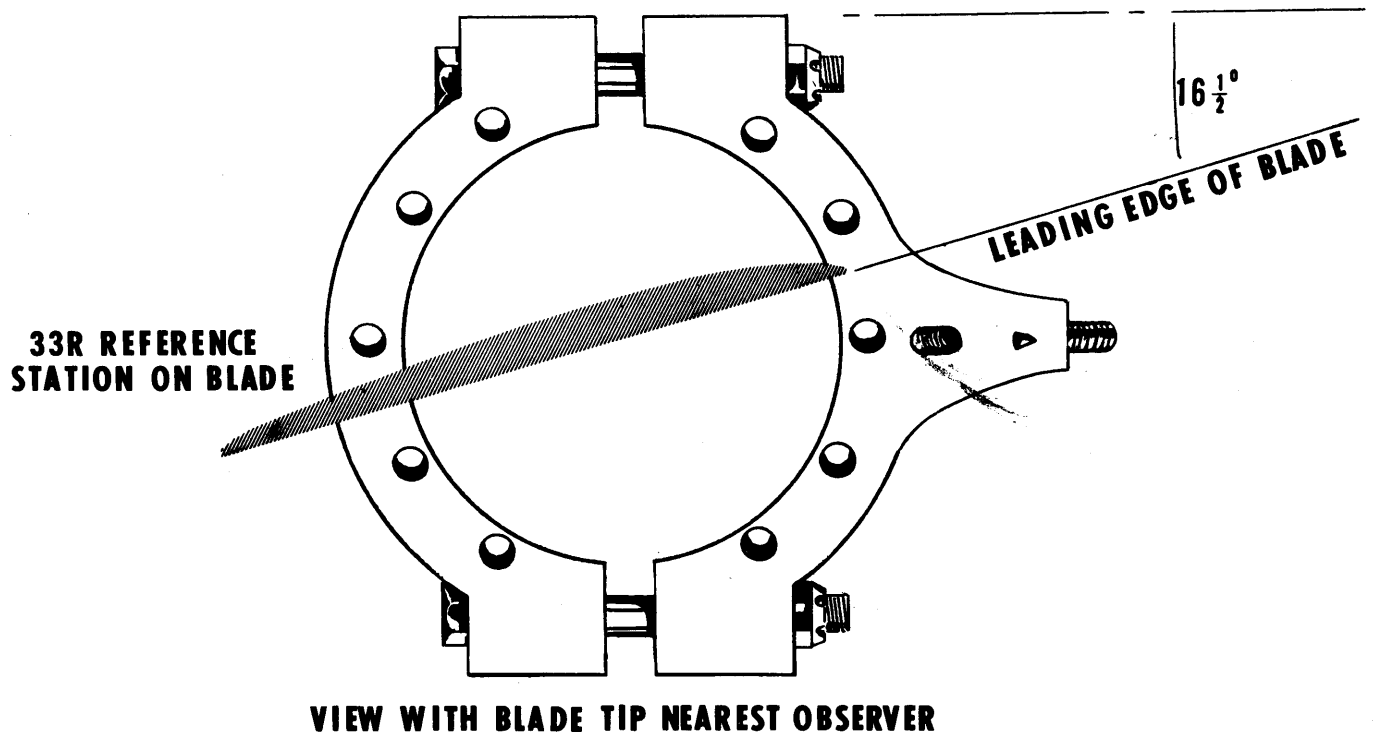

Figure 7. Pitch Control Arm Setting
6. Install pitch control arm (2), 2 set screws (1), 2 bolts, nuts, and washers (3), and balance screws, plates, and weights (10) on each blade. The stud (5) must be at the leading edge of the blade, and point toward the hub. The arm must enclose the ridge which runs around the blade retainer approximately 3/4 inch outboard of the retention nut, and must be pushed outboard until it rests against it. Set the center line of the arm at  $16\frac{1}{2}^{\circ}$  to the 33R blade reference station on each blade (see Figure 7). Snug up the clamp bolts (3), but not the set screws (1).